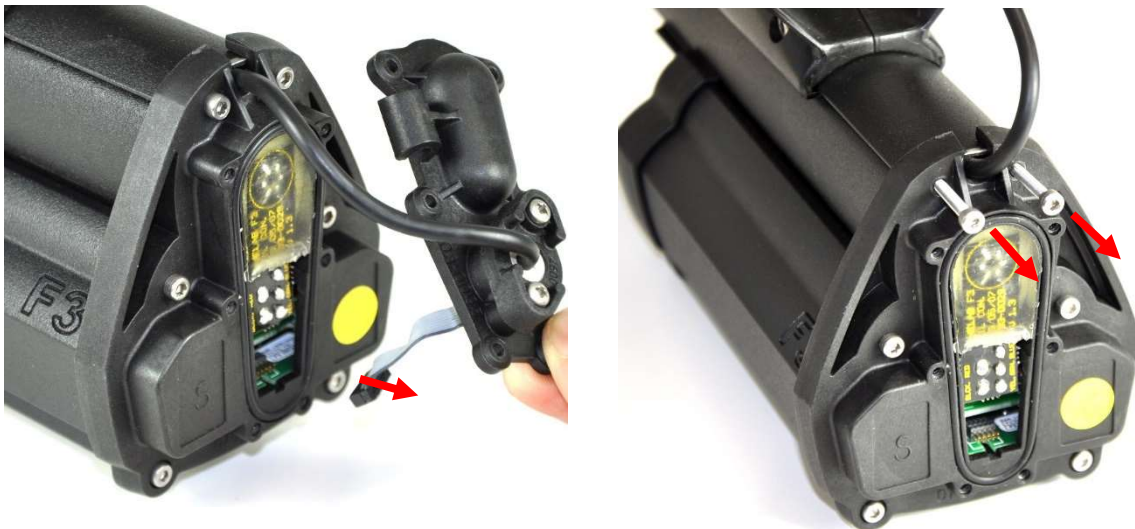

Figure 13: Removal of Wiring Loom from Electronics Pack.
- Gently unplug the wiring loom plug from the electronics pack, as shown in Figure 13.